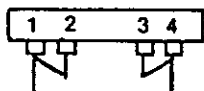
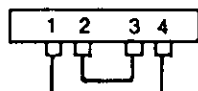

Fig. 1
Fig. 2
INPUT CONNECTIONS: When operating with 115 VAC input, place a jumper between transformer terminals one (1) and two (2) and also between three (3) and four (4). Then connect the AC primary leads to terminals one (1) and four (4) as shown in Fig. 1. When operating with 230 VAC input, place a jumper between transformer terminals two (2) and three (3) and connect the AC primary leads to terminals one (1) and four (4) as shown in Fig. 2.